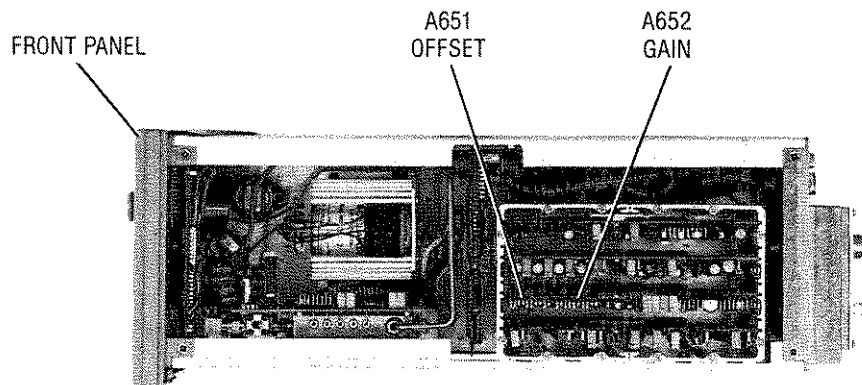
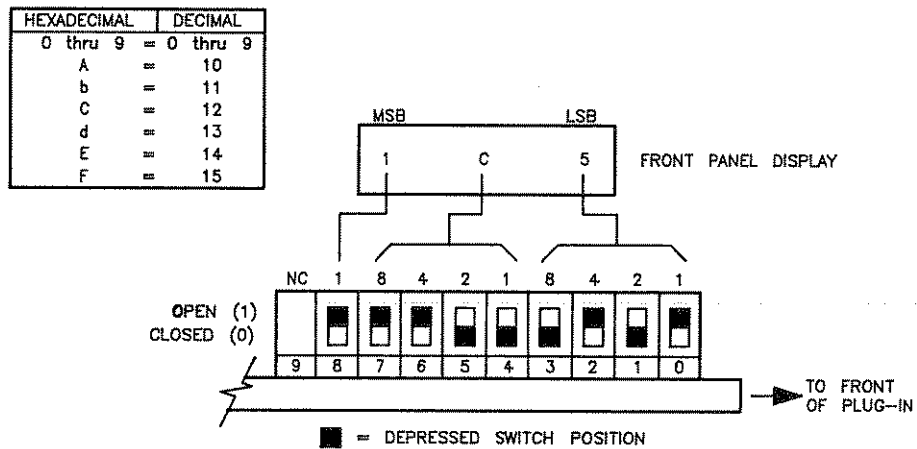

Figure 5-10. Frequency Calibration Adjustments Location
Figure 5-11. A6S1 and A6S2 Frequency Calibration Switch Configuration
3. Set switch A6S1 (OFFSET DAC) for the value displayed in the POWER window (See Figure 5-10 for switch location). Note the hex number for subsequent verification. Refer to the diagram in Figure 5-11.
7. Set A6S2 (GAIN DAC) for the reading displayed in the POWER window (See Figure 5-10 for switch location). Note the hex number for subsequent verification. Refer to Figure 5-11.